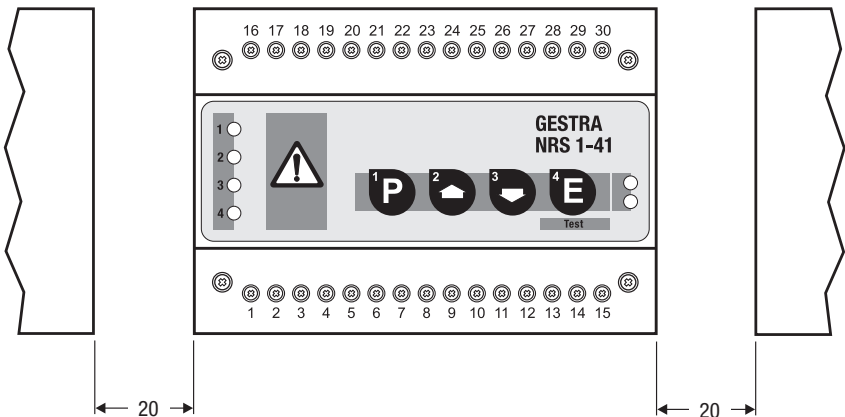

Fig. 7
2. Align switching controller, **Fig. 7**